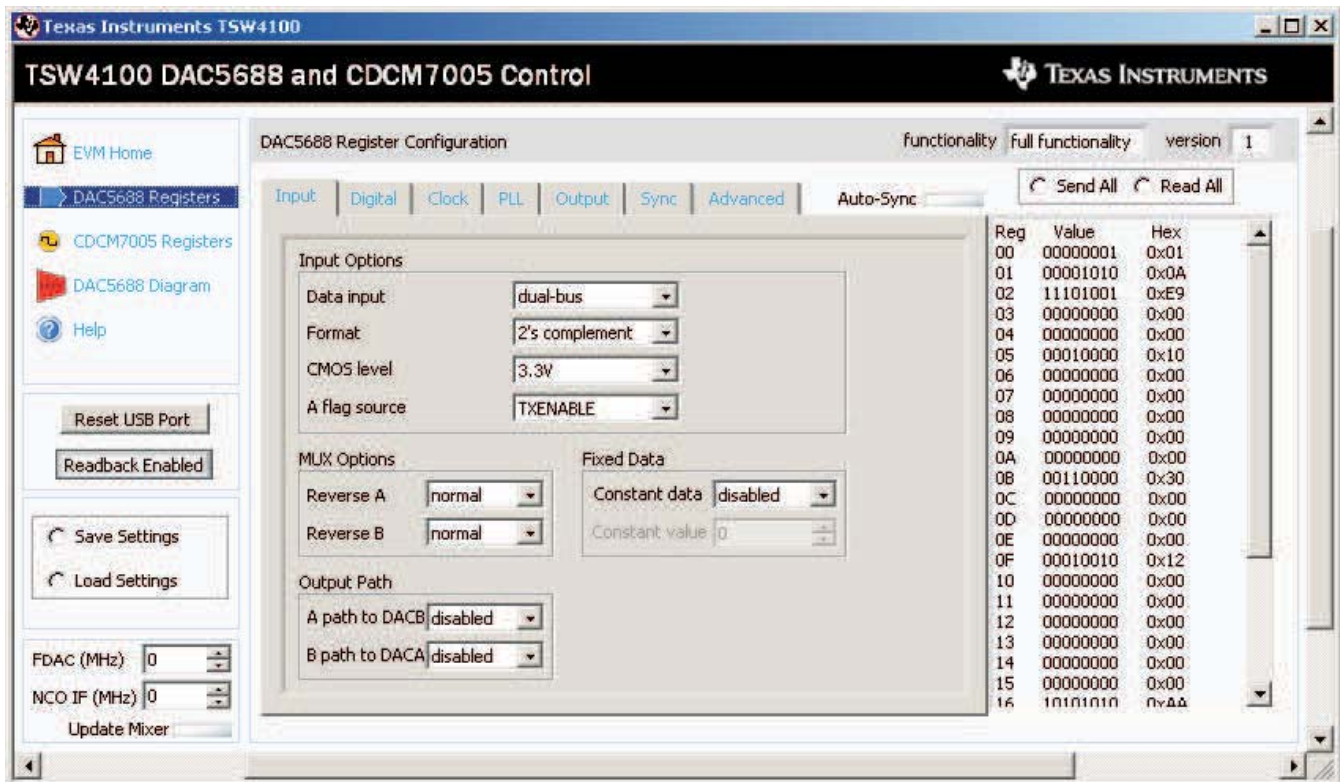

Figure 17. DAC5688 Options
2. The GUI should now be displaying the Input tab settings, as shown in Figure 17. In this window, the user can change the Input Formats, MUX options, Output path, and Fixed Data settings.